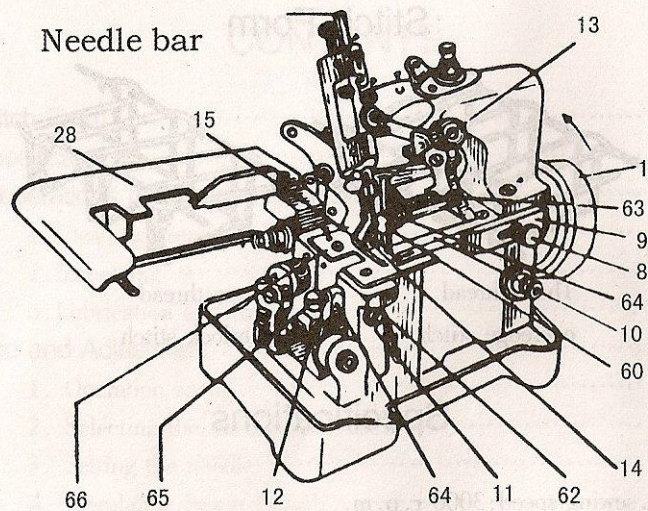
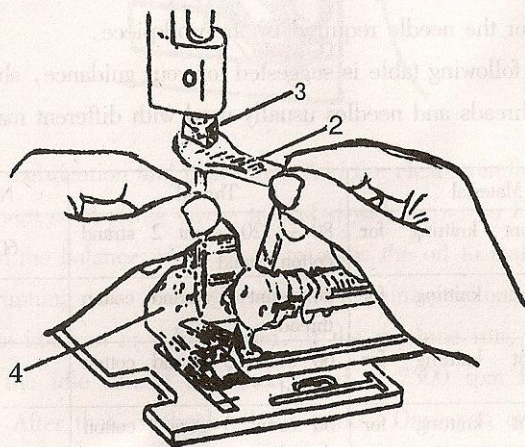
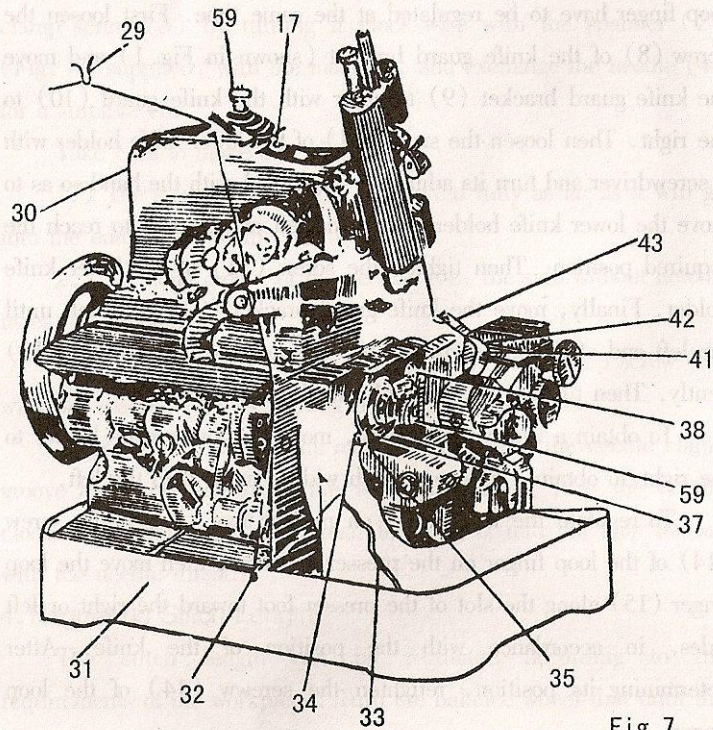

Fig 1
Fig 4
Fig 7
To ensure longer service life, at first the machine should be run at a speed of not more than 2500 rpm so as to break it in sufficiently. After use for a month, the speed may be increased to appaox. 3000 r. p. m. according to the material being sewn. The machine balance wheel should be turned toward the outside (see Fig 1).
Turn balance wheel (1) clock - wise first as shown in fig. 1 until the needle bar is in its highest position. Loosen the needle clamp screw (3) by turning it clock-wise with the spanner (2) (Fig. 4) supplied, with the machine, and exchange the needle (4) for a suitable one.
To regulate the stitch width, the positions both for knife and loop finger have to be regulated at the same time. First loosen the screw (8) of the knife guard bracket (shown in Fig.1) and move the knife guard bracket (9) together with the knife guard (10) to the right. Then loosen the screw (11) of the lower knife holder with a screwdriver and turn its adjusting screw (12) with the hand so as to move the lower knife holder toward the left or right side to reach the required position. Then tighten the screw (11) of the lower knife holder. Finally, move the knife guard bracket (9) to the left until the left end of the knife guard (10) touches the upper blade (13) gently. Then tighten the screw (8) of the knife holder.
Turn the balance wheel until the needle bar is raised to its highest position. Slide the cloth plate (28) (see Fig. 1) to the left, and place the bobbin on the spool pin. Then thread in order as indicated with arrows. (see Figs. 7 - 8) 29→30→32→34→36→37→38→40→42→43
The tension nut (59) (see Fig. 7) can be used to adjust the tension of thread of the needle as well as the big and small loopers.
### 2. Changing the Blade (see Fig. 1)
The upper blade is to be mounted in the following way. Turn the balance wheel clockwise until the needle bar lowers to its lowest position. Then push lightly on the left end of the cover (60) of the upper knife with the left hand and insert the upper blade (13) into the slot of the upper knife seat (4) so as to make the upper blade (13) overlap by 0.5mm with the lower blade (62). Tighten the knife screw (63) with the right hand. Finally, move the knife guard bracket (9) toward the left so as to make the left end of knife guard (10) (see Fig. 1) touch gently against the upper blade (13), and then tighten the screw (8) of the knife guard bracket.